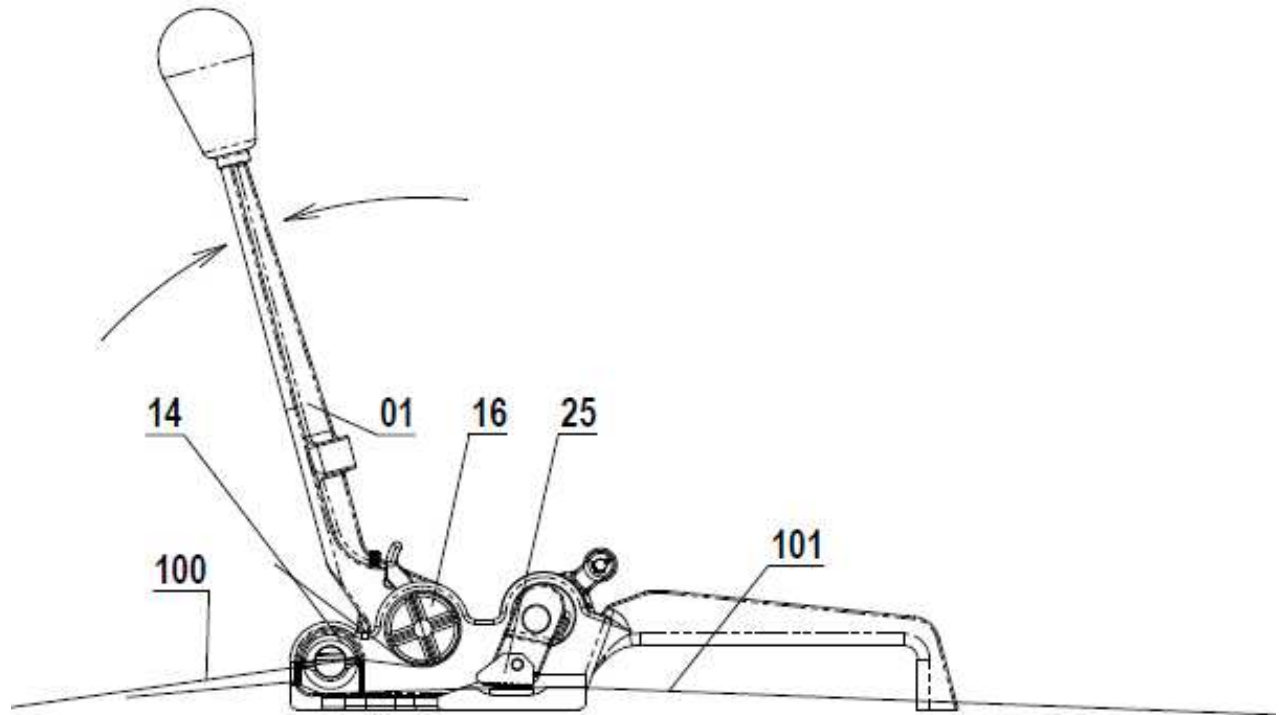

Fig. 4
3. Apply tension by ratcheting **Tension Handle 01** as shown on Fig. 4.